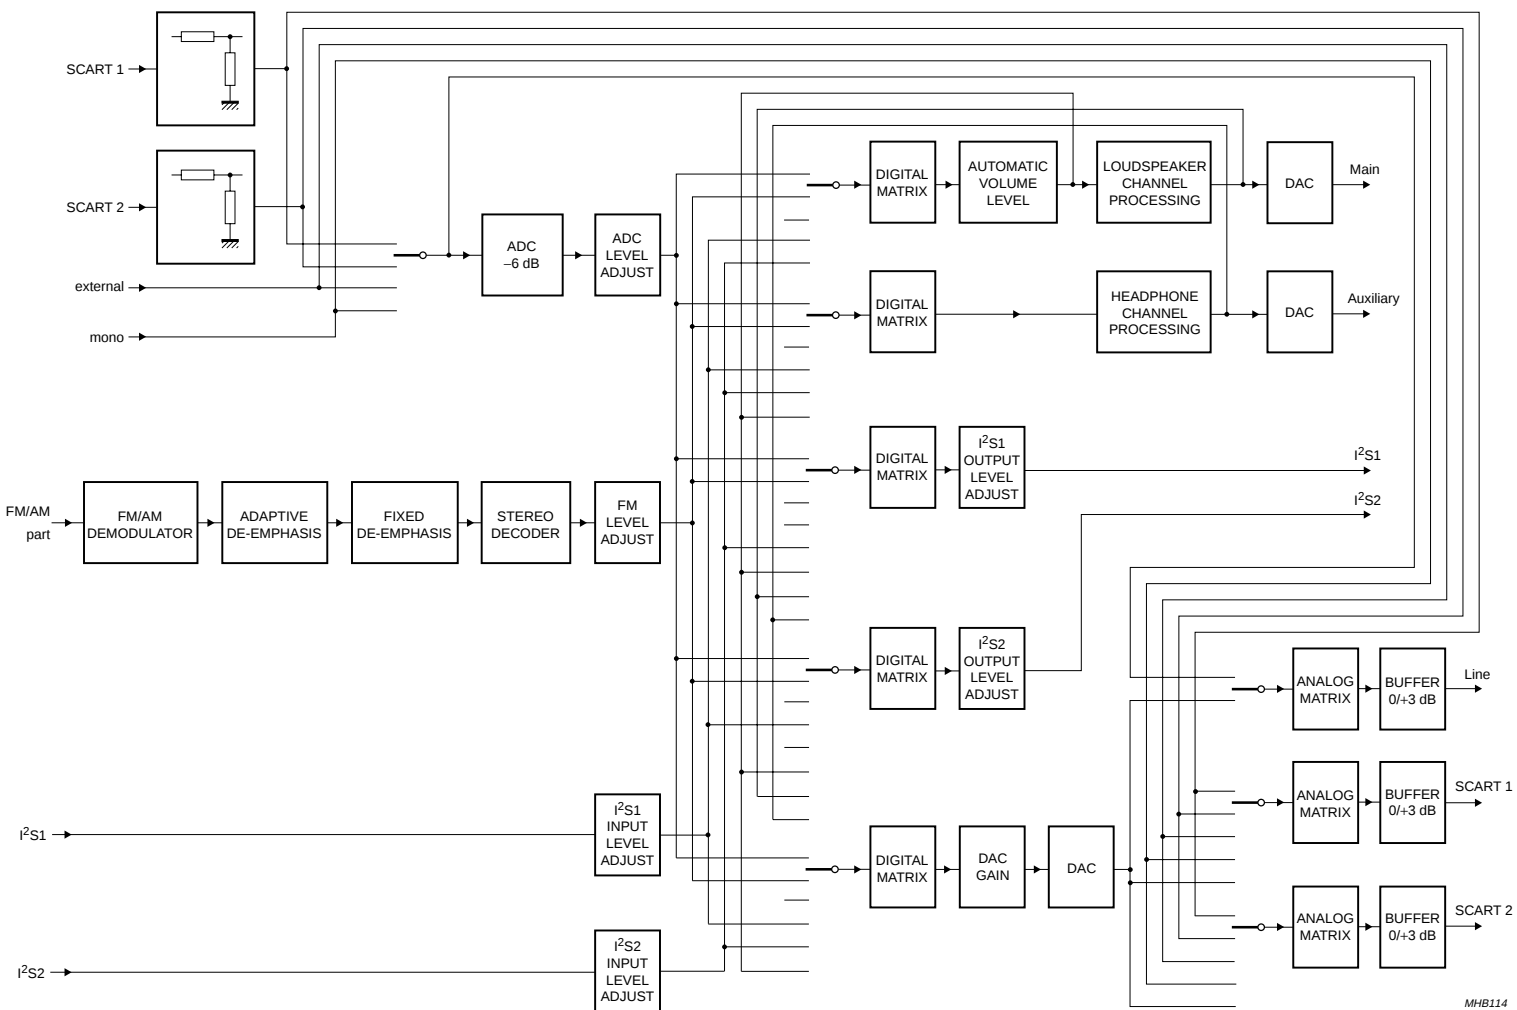

Fig.6 Audio signal flow diagram.
6.2.9 DIGITAL CROSSBAR SWITCH (see Fig.6)
(see also Fig.6)